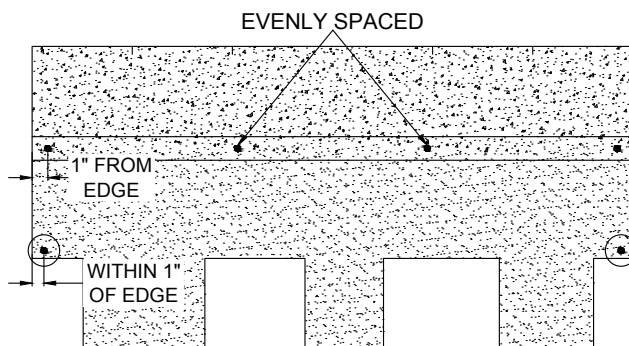

Figure 14 - Windsor®, 6-Nail Fastening Pattern
- Place four (4) fasteners in the high nailing area, equally spaced across the shingle, with the outer fasteners 1" (25 mm) in from each edge.
- Place two (2) fasteners in the *low nailing area*, no more than 1" (25 mm) from each edge, and approximately 3/4" (19 mm) above the tabs, making sure the fasteners will be covered by shingle tabs in the course above them. (See Figure 14)